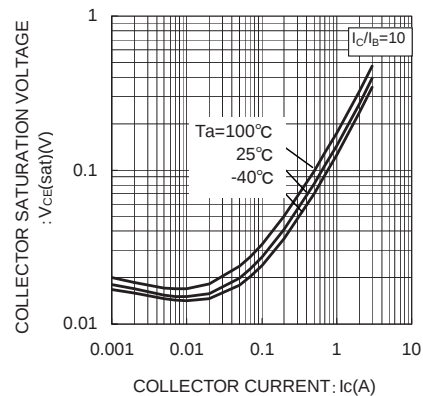

Fig.6 Collector-Emitter Saturation Voltage vs. Collector Current (II)
Voltage vs. Collector Current (I)Fig.6 Collector-Emitter Saturation